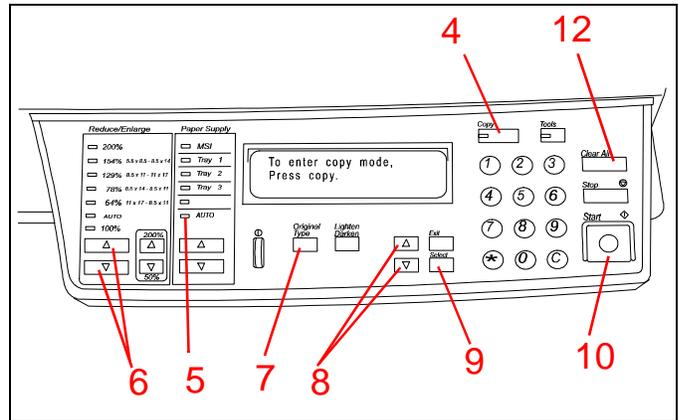

Figure 47
4. See Figure 47. Press the **Copy** button.